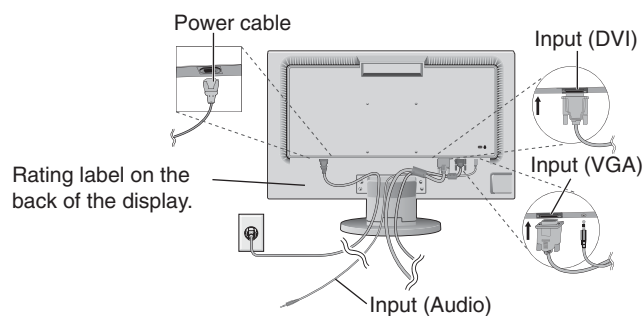
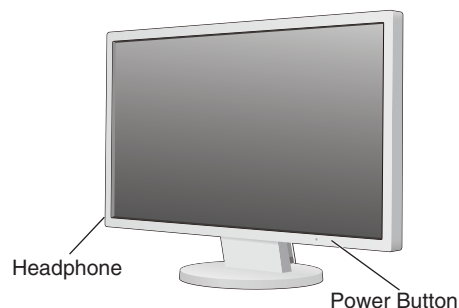

Figure B.1
Figure D.1
3. Connect the 15-pin mini D-SUB of the video signal cable and Audio Cable to the appropriate connector on the back of the monitor (**Figure B.1**). Connect the Headphone to the appropriate connector at the left of the monitor (**Figure D.1**).
5. Turn on the monitor with the bottom power button and the computer (**Figure D.1**).